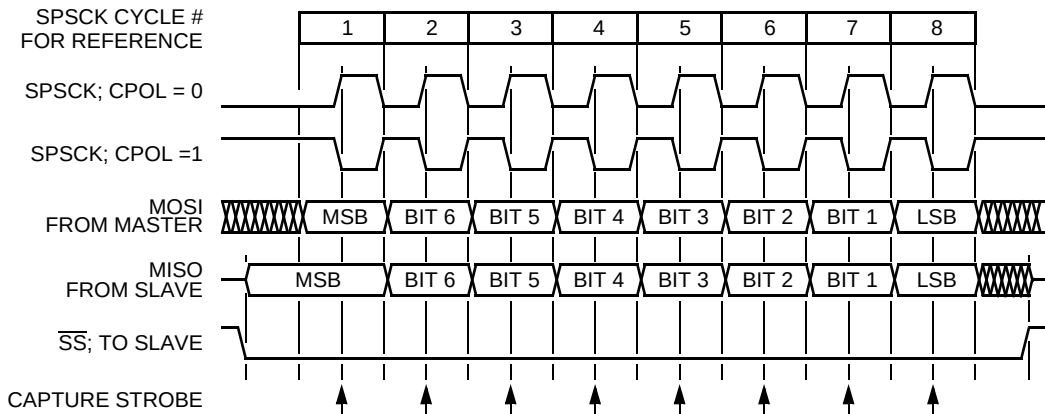
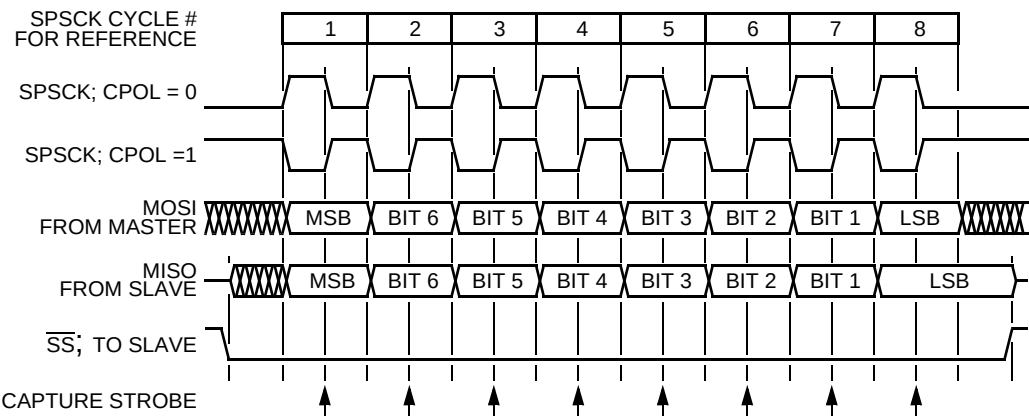

Figure 14-4. Transmission Format (CPHA = 0)
**Figure 14-6. Transmission Format (CPHA = 1)**
**Figure 14-4** shows an SPI transmission in which CPHA is logic 0. The figure should not be used as a replacement for data sheet parametric information.
**Figure 14-6** shows an SPI transmission in which CPHA is logic 1. The figure should not be used as a replacement for data sheet parametric information. Two waveforms are shown for SPSCCK: one for CPOL = 0 and another for CPOL = 1. The diagram may be interpreted as a master or slave timing diagram since the serial clock (SPSCCK), master in/slave out (MISO), and master out/slave in (MOSI) pins are directly connected between the master and the slave. The MISO signal is the output from the slave, and the MOSI signal is the output from the master. The  $\overline{SS}$  line is the slave select input to the slave. The slave SPI drives its MISO output only when its slave select input ( $\overline{SS}$ ) is at logic 0, so that only the selected slave drives to the master. The  $\overline{SS}$  pin of the master is not shown but is assumed to be inactive. The  $\overline{SS}$  pin of the master must be high or must be reconfigured as general-purpose I/O not affecting the SPI. (See **14.8.2 Mode Fault Error**.) When CPHA = 1, the master begins driving its MOSI pin on the first SPSCCK edge. Therefore, the slave uses the first SPSCCK edge as a start transmission signal. The  $\overline{SS}$  pin can remain low between transmissions. This format may be preferable in systems having only one master and only one slave driving the MISO data line.
The overflow flag (OVRF) becomes set if the receive data register still has unread data from a previous transmission when the capture strobe of bit 1 of the next transmission occurs. The bit 1 capture strobe occurs in the middle of SPSCCK cycle 7. (See Figure 14-4 and Figure 14-6.) If an overflow occurs, all data received after the overflow and before the OVRF bit is cleared does not transfer to the receive data register and does not set the SPI receiver full bit (SPRF). The unread data that transferred to the receive data register before the overflow occurred can still be read. Therefore, an overflow error always indicates the loss of data. Clear the overflow flag by reading the SPI status and control register and then reading the SPI data register.